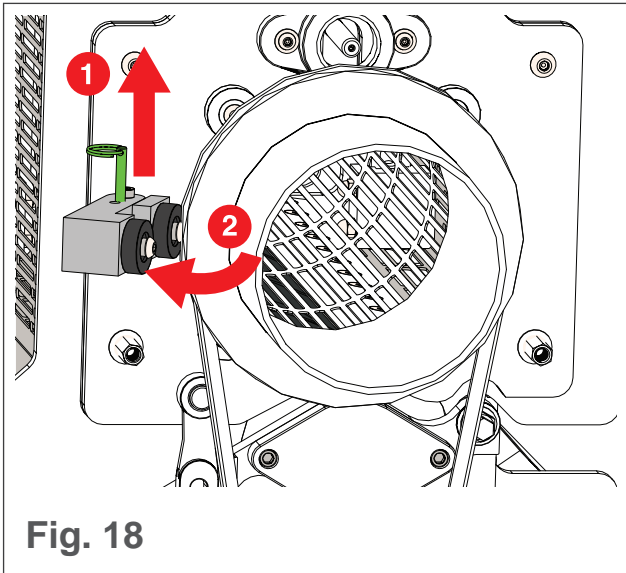

Fig. 18
1. Remove the tumbler guide pin (see Fig. 18).
2. Rotate the tumbler guide out (see Fig. 18).